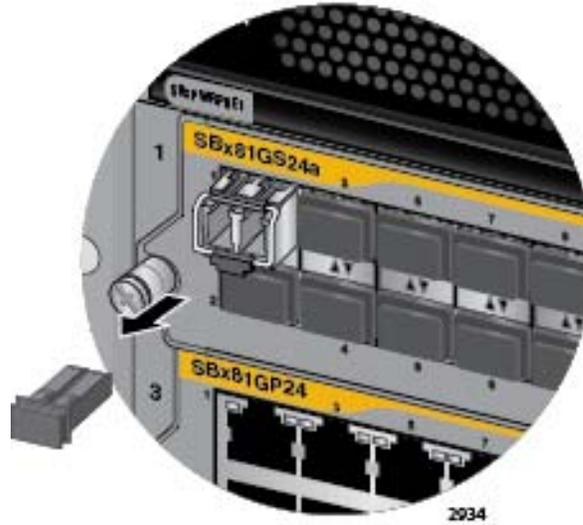

Figure 85. Removing the Dust Cover from the SFP Transceiver in the AT-SBx81GS24a Line Card
- Remove the protective cover from the SFP transceiver, as shown in Figure 85 on page 132.